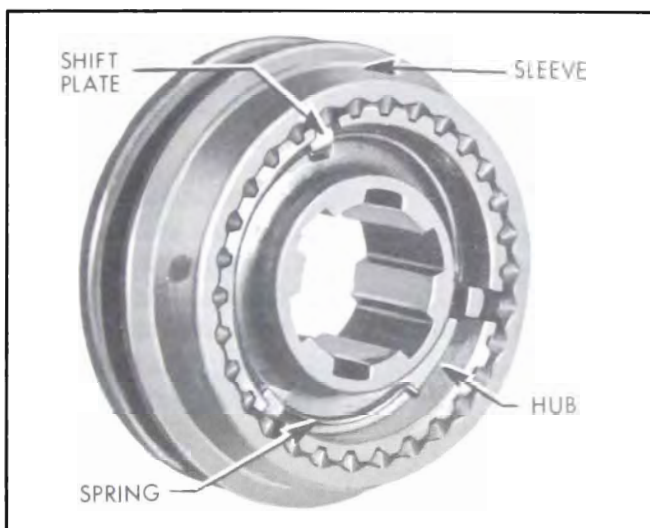

Figure 4-24—Synchronizer Assembly
2. While holding shift plates in position (in grooves) on hub, slide synchronizer sleeve over hub until detent is felt. The extended tapered portion of the sleeve faces the same direction (front) as the long extended portion at the center of the hub. See Figure 4-24.